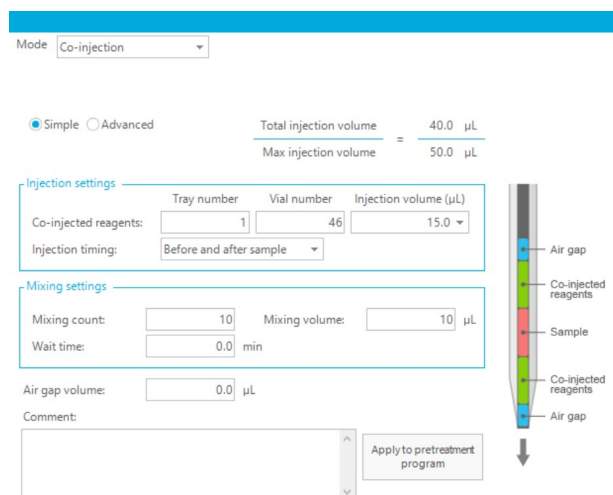
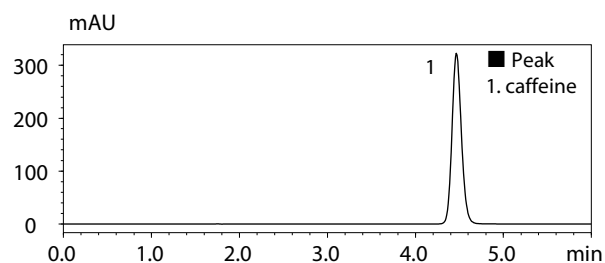

Fig. 3 Window for Specifying Co-Injection Settings (Simple) for Automatic Pretreatment Function
Fig. 4 Chromatogram with Water Co-Injected
**2 Sample diluent solvent for co-injection used in Fig. 4.
The co-injection function was used for analysis with the settings in Table 1. Fig. 3 shows how the co-injection settings were configured. 15 µL of the co-injected reagent (water), sample, and 15 µL of the co-injected reagent (water) were successively suctioned, mixed within the needle, and then injected. The resulting chromatogram is shown in Fig. 4. It shows how co-injection improved peak shape.